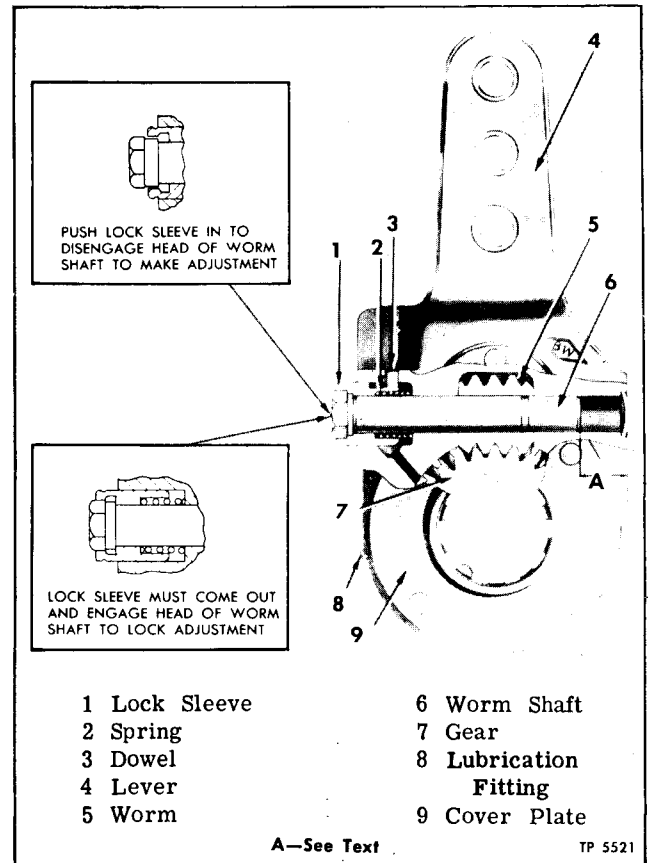
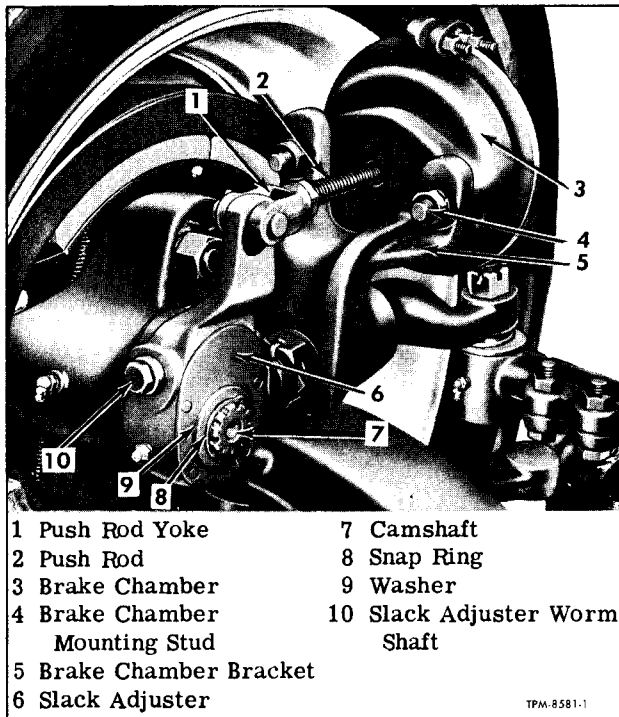
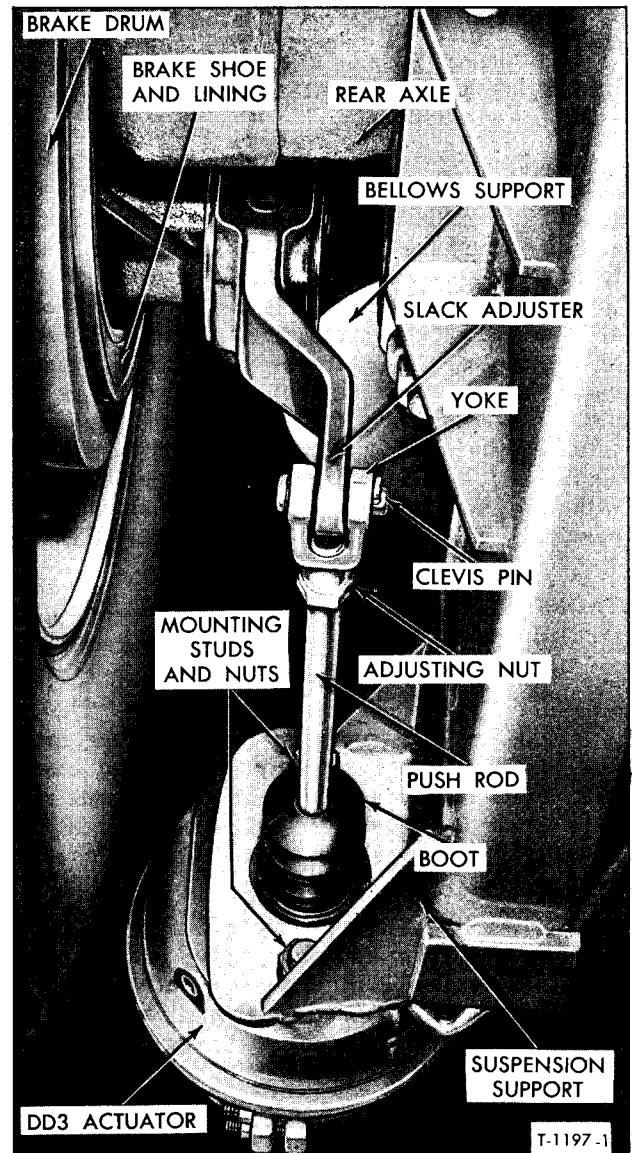

Figure 6—Slack Adjuster (Typical)
Figure 7—Front Brake Chamber, Bracket, and Slack Adjuster Installed on Axle
Figure 8—DD3 Rear Brake Actuator and Slack Adjuster Installed
Each front brake chamber is mounted at wheel as shown in figure 7. Rear brake actuators are mounted at rear end of rear suspension support (fig. 8). Front brake chambers are connected to air system through the application valve. Rear brake actuator service ports are connected through brake relay valve.
brakes to compensate for normal lining wear. Positive locking type slack adjusters are used at front and rear brakes. Construction of both front and rear slack adjusters is shown in figure 6. Front and rear slack adjuster installations are shown in figures 7 and 8.
Removal (Fig. 7 or 8)
Installation (Fig. 7 or 8)
Disassembly (Fig. 6)
Assembly (Fig. 6)
3. Enter small end of worm shaft through hole in body and worm. Press worm shaft into worm and body, making sure the groove in lock sleeve is aligned with pin in body. Press shaft in until distance from small end of shaft to edge of body (A, fig. 6) is 9/16". Install welch plug in worm shaft bore.